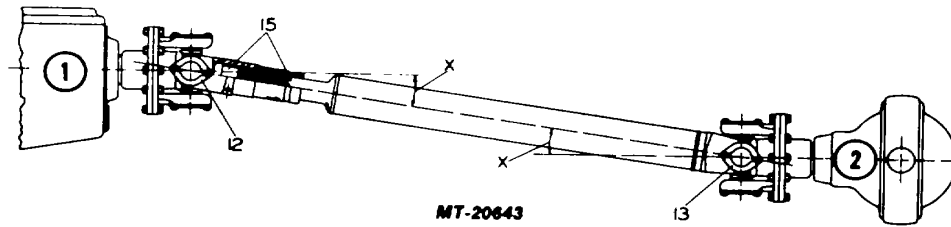
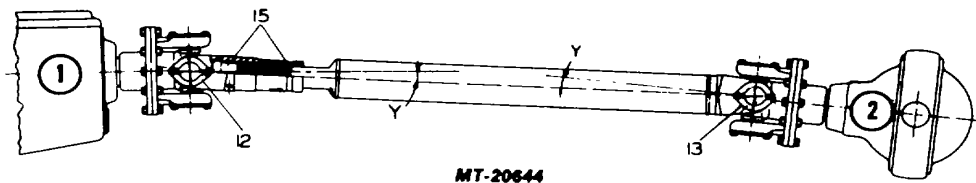

Fig. 40
Fig. 41
Install transmission so that the transmission mainshaft and axle pinion shaft are parallel or nearly so, in order to keep the angles (X) on both joints as nearly equal as possible. See Fig. 40. If this method results in angles (X) of more than 12 degree, use the method shown in Fig. 41, where the axle pinion shaft is tilted upward to enable the centerlines to intersect at a point midway between the joint centers, thus giving equal angles (Y).